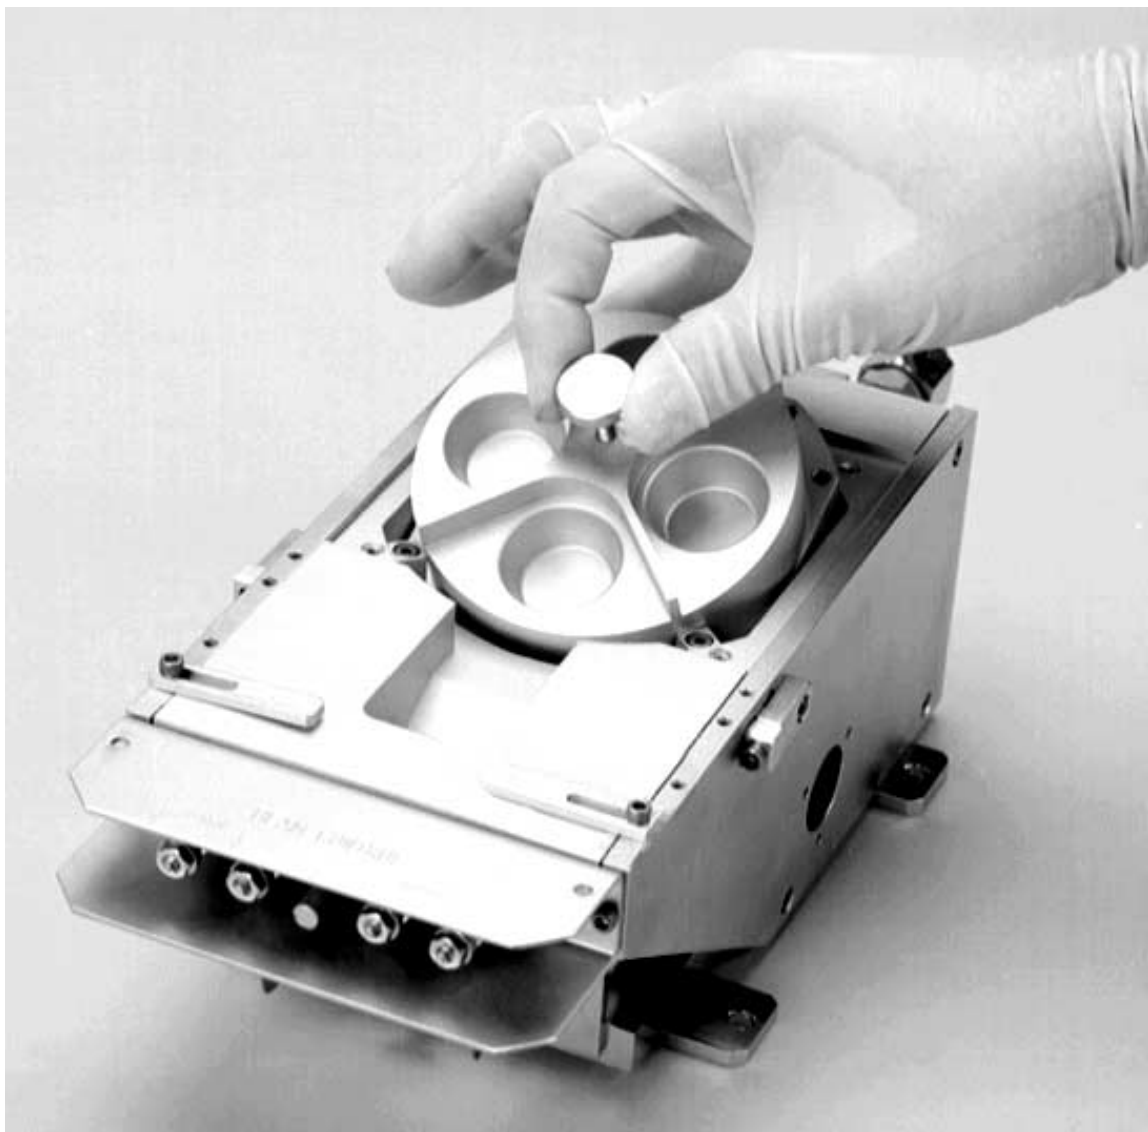

Figure 5-6. Removing the crucible from the source. Note angle of withdrawal
- (c) Pull the crucible clear of the coil housing by angling it upward and backward at the same time, as shown in Figure 5-6. Be very careful at this point not to scrape the crucible's O-ring-sealing surface on the water baffle.
- (b) Angle the crucible into the position shown in Figure 5-6. Then lower its rear end so that its bottom surface is horizontal, and lower it straight down onto the O-ring.